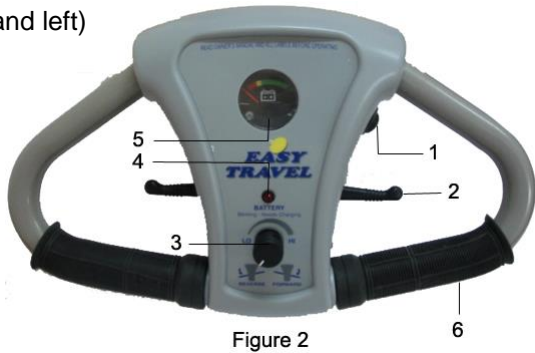

Figure 1
3.1. **EasyTravel Elite** parts – (Figure 1)